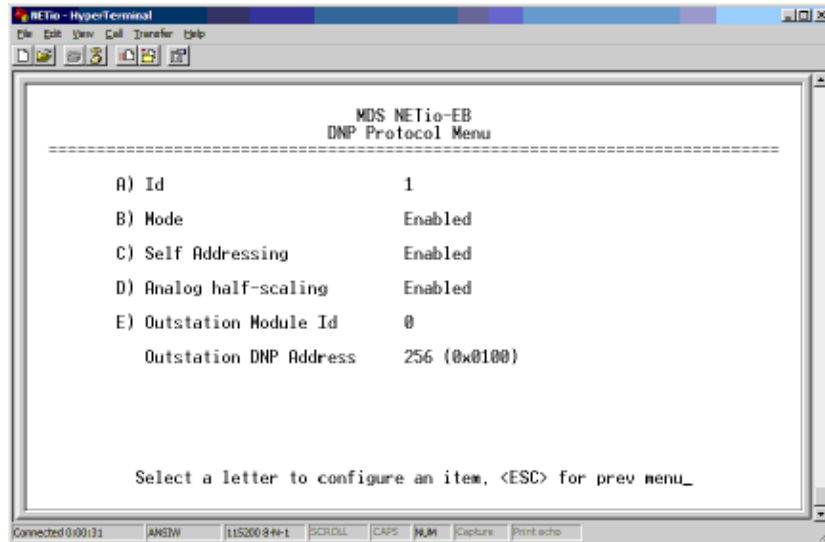

Figure 6-30. DNP Protocol Menu
- In the DNP Protocol Menu shown in Figure 6-30, select **ID** to enter the DNP Id. Next, select **MODE** to enable the DNP protocol.